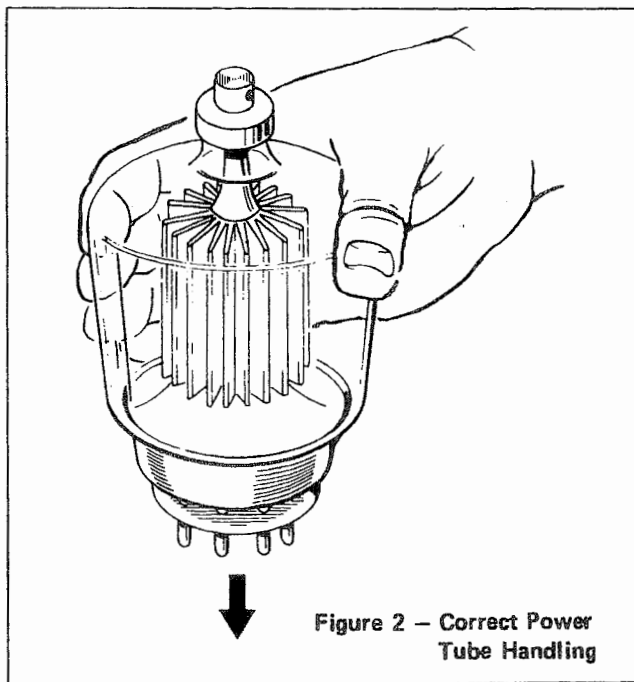

Figure 2 – Correct Power
5. Take the tubes out of their case (Refer to Fig. 2). In handling, be sure to hold them by the glass envelope, not the plate cap.